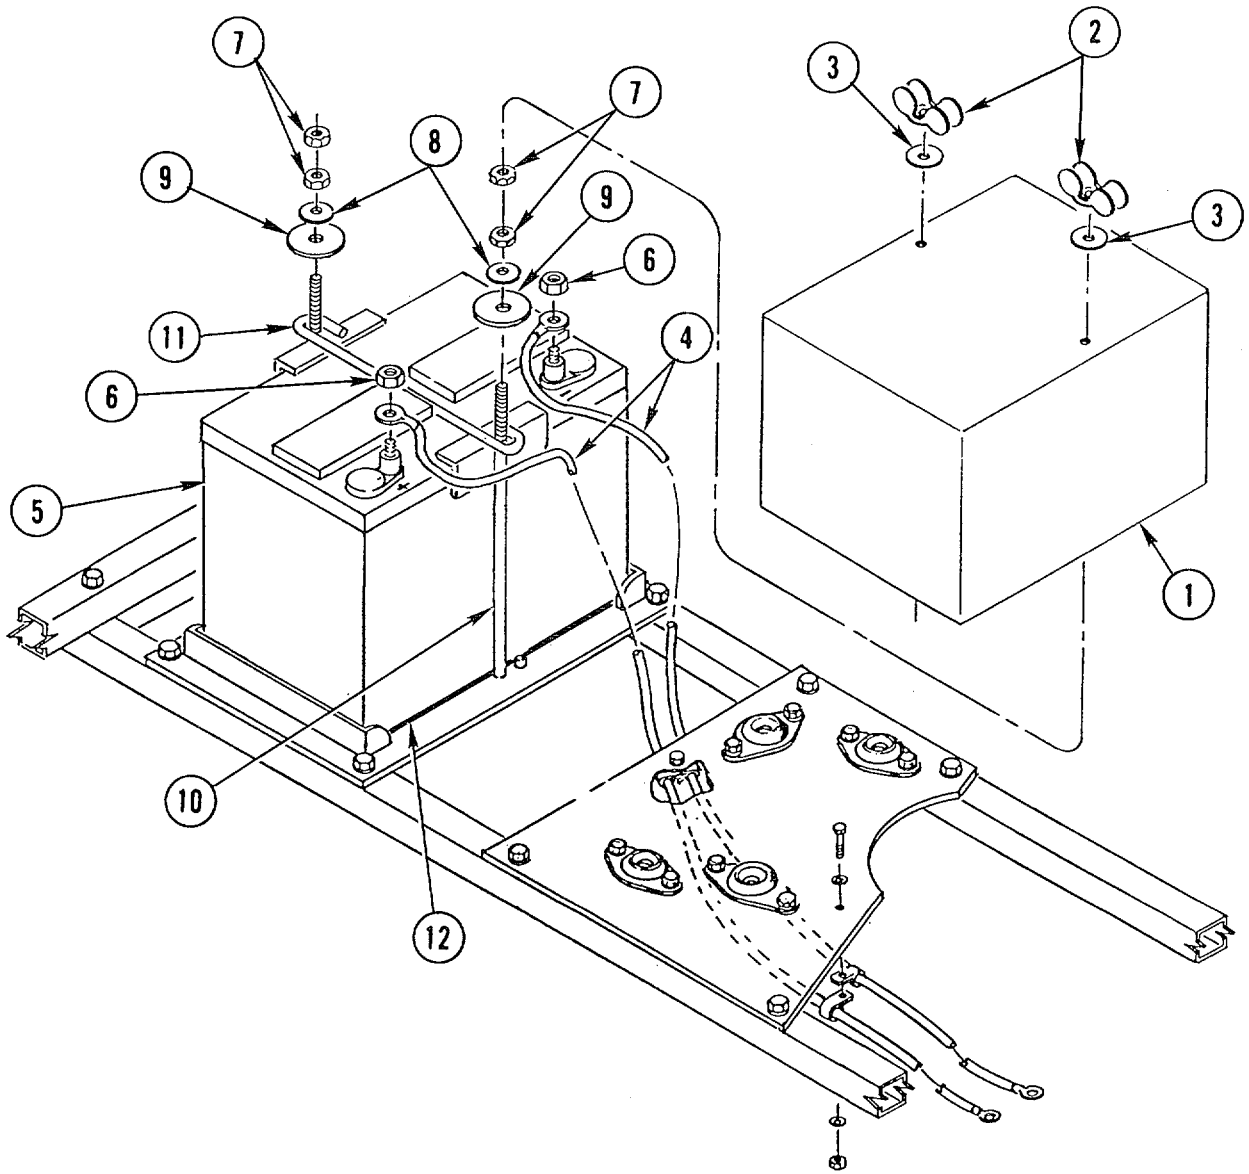

Figure 2-5. Battery Installation
- (1) Remove battery cover (1, figure 2-5) by removing two nuts (2) and two washers (3).
- (2) Disconnect two battery cables (4) from battery (5) by removing two locknuts (6).
- (3) Remove four jam nuts (7), two flat washers (8), and two insulator washers (9) from two holddown bolts (10).
- (4) Remove holddown crossbar (11) and two holddown bolts (10). Remove battery (5) from pad (12).
- (5) Fill battery with electrolyte (item 6, Appendix E) to level indicated on battery.
- (6) Install battery (5, figure 2-5) on battery pad (12).
- (7) Hook two holddown bolts (10) on battery pad (12) and install holddown crossbar (11).
- (8) Install two insulator washers (9), two flat washers (8), and four jam nuts (7) on holddown bolts (10).